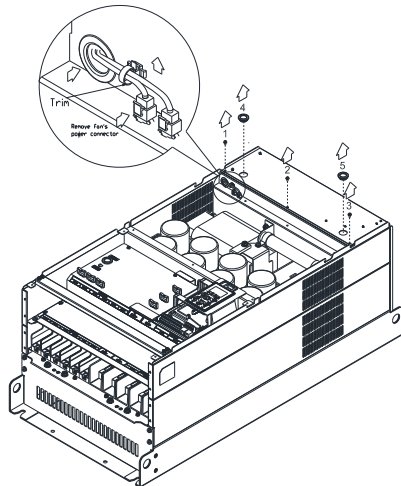

Figure 3
4. Loosen screw 1, 2, 3 and remove the protective ring (as shown in figure 3) Screw torque: 14~16 kg-cm / [12.2~13.9 lb-in.] / [1.4~1.6 Nm]